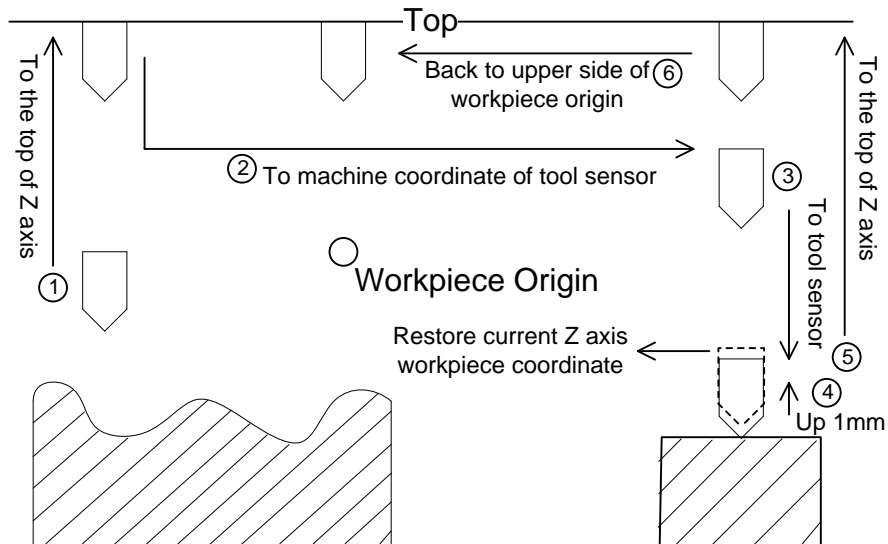

Fig. 4-29 Tool calibration after tool change
- 4) During machining, when calibration is required in case of tool change or tool breakage, click  button to perform calibration after tool change. The system will restore the workpiece origin of Z axis before tool change or breakage automatically. The process is illustrated in Fig. 4-29.